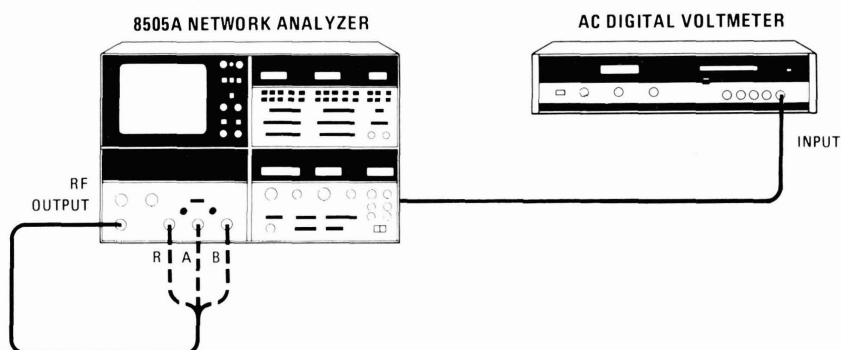
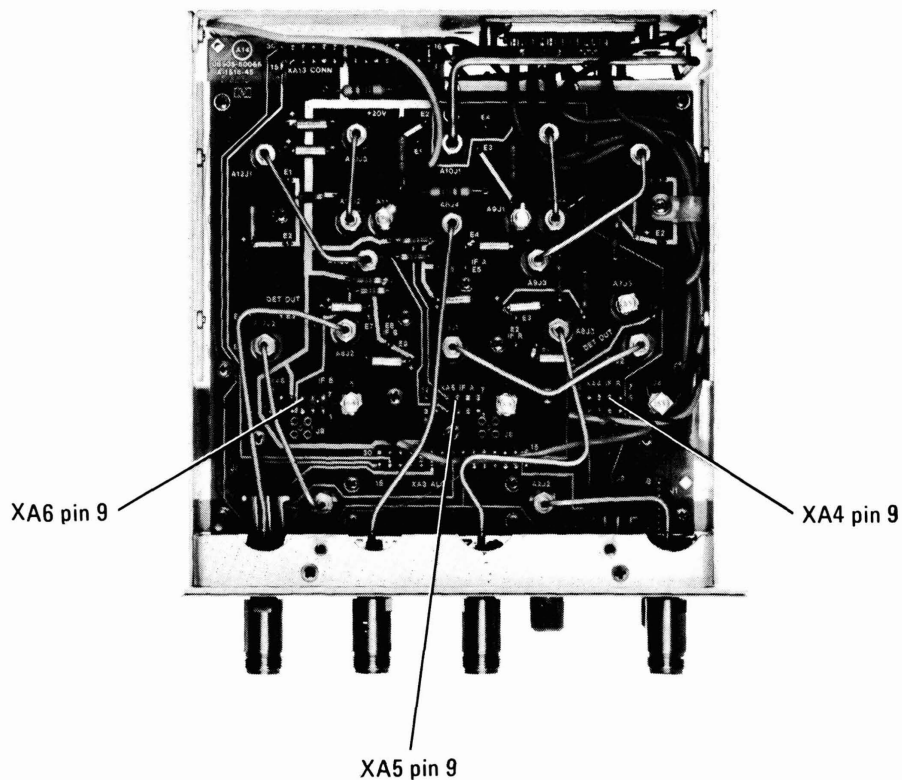
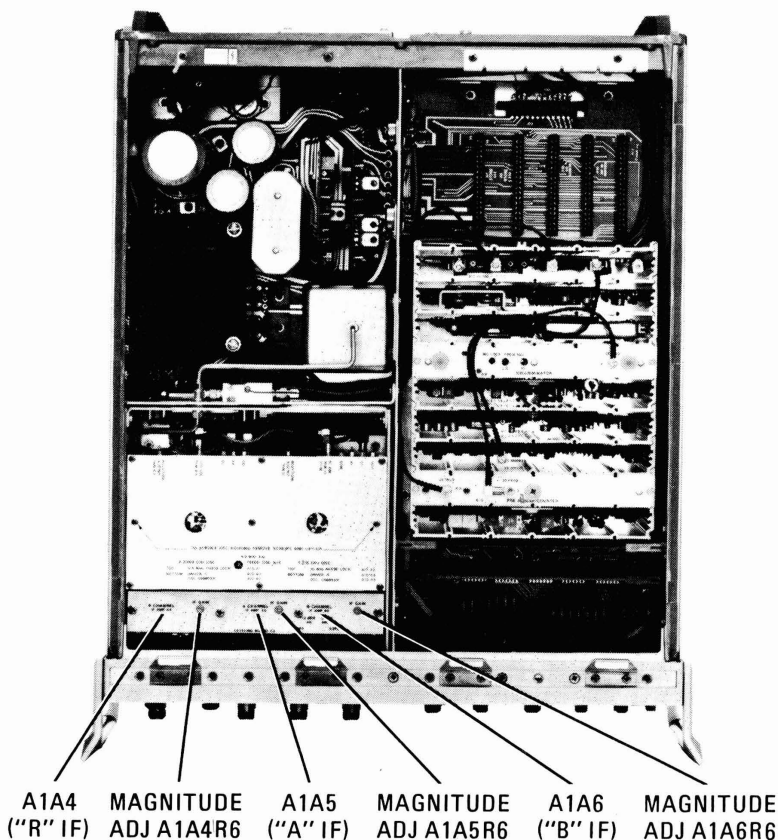

Figure A5-7. Receiver Output Test Setup
Figure A5-8. IF Amplifier Signal Test Points on A1A14 Mother Board.
Figure A5-9. IF Amplifier A1A4/A5/A6 Adjustment Locations
- a. Connect equipment as shown in Figure A5-7 with RF OUTPUT connected to R INPUT. Connect AC Digital Voltmeter (DVM) to pin 9 of XA4 as shown in Figure A5-8.
- c. Adjust MAGNITUDE ADJ A1A4R6 on "R" Channel IF amplifier A4 (Figure A5-9) for a DVM indication of 0.35 VRMS \pm 0.02 VRMS.
- d. Disconnect coaxial cable from the front panel R INPUT and connect it to A INPUT. Disconnect the DVM from Pin 9 of XA4 and connect it to Pin 9 of XA5 (Figure A5-8). Adjust MAGNITUDE ADJ A1A5R6 on A Channel IF amplifier A5 (Figure A5-9) for a DVM indication of 0.35 VRMS \pm 0.02 VRMS.
- e. Disconnect cable from the front panel A INPUT and connect it to B INPUT. Disconnect the DVM from Pin 9 of XA5 and connect it to Pin 9 of XA6 (Figure A5-8). Adjust MAGNITUDE ADJ A1A6R6 on B Channel IF amplifier A6 (Figure A-9) for a DVM indication of 0.35 VRMS \pm 0.02 VRMS.